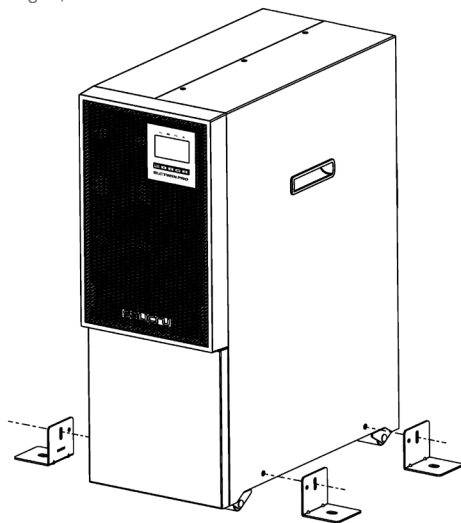

Fig. 21. Installation of the stabiliser supports.
2. Install the supports to improve stability, as indicated in Fig. 21.